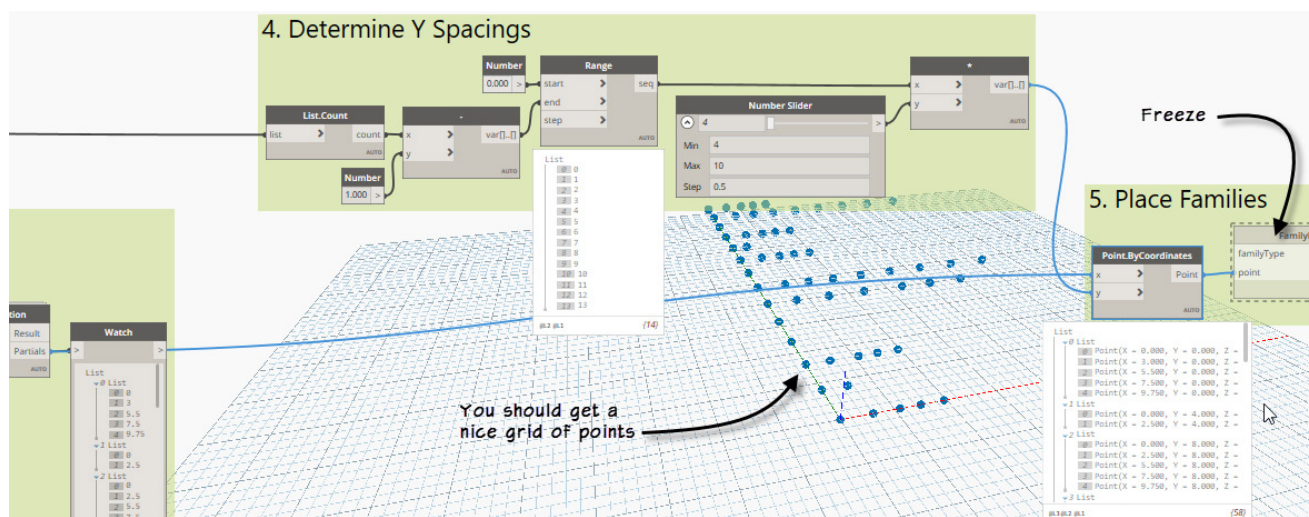

Figure 57
42. In group 5, right-click the ***FamilyInstance.ByPoint*** node and choose: **Freeze**, then run the graph (see Figure 57).